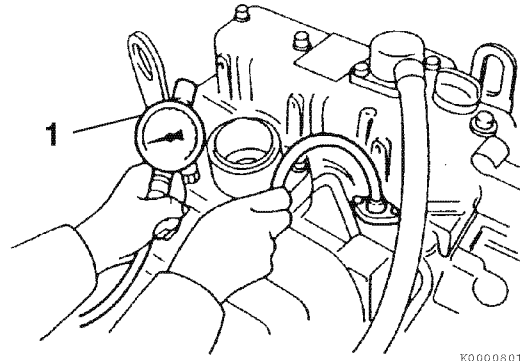

Figure 14-1
4. Turn off the fuel supply valve in the fuel supply line. Disconnect the fuel injection stop solenoid at the connector. Crank the engine for a few seconds with the stop solenoid disconnected (no injection state) before installing the compression gauge adapter (1, **Figure 14-1**), this will expel any residual fuel from the cylinder.